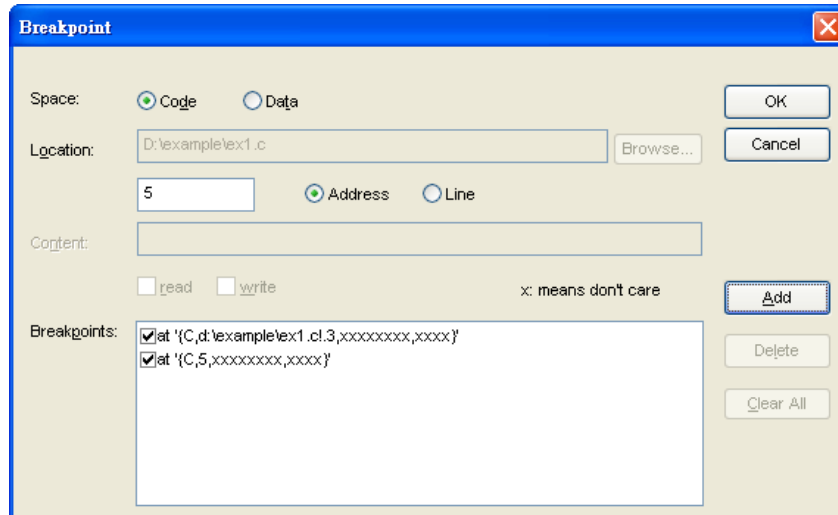

Fig 5-3
A breakpoint consists of the following descriptive items. It is not necessary to set all items, Fig 5-3:
- If the breakpoint to be set is not in the Breakpoints list box (Fig 5-3), then the descriptive items must be designated first, then added to the Breakpoints list box.
A breakpoint dialog box is displayed (Fig 5-3)